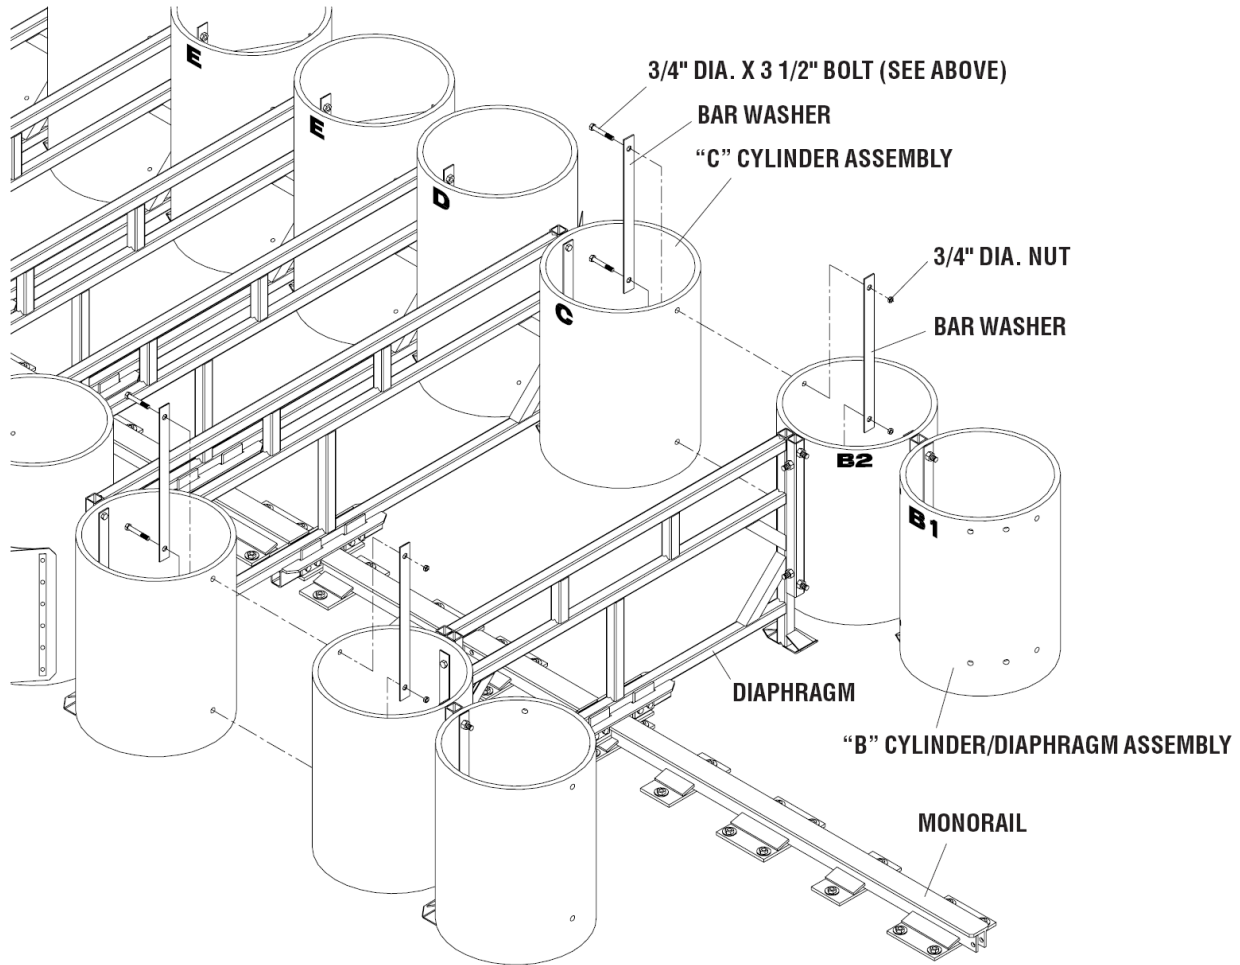

Figure 29
2. Assemble "B" Cylinder/Diaphragm Assembly onto "C" Cylinder Assemblies as shown in Figure 29.